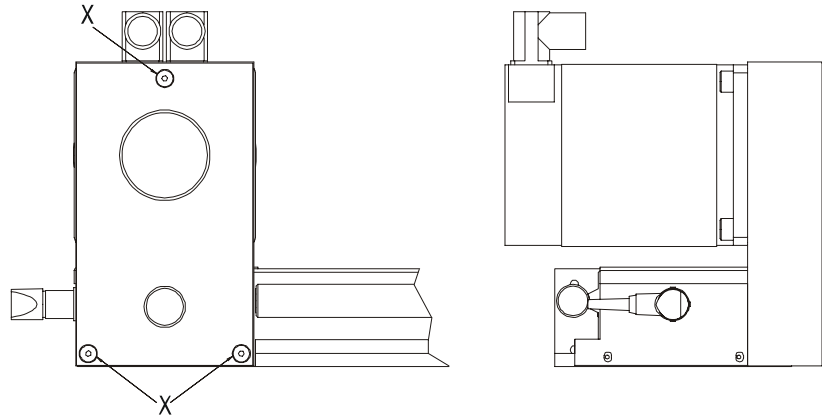

Figure 23: Belt Drive, Module 142
- Remove the motor flange cover by undoing the screws (*Figure 23, X*).
- Remove the motor flange cover by undoing the fastening screws (**X**) (*see Figure 23, page 30*)
- Remove the motor flange cover by undoing the screws of the motor flange (see Figure 23, X)
- Reattach the motor flange cover (see *Figure 23, X*)